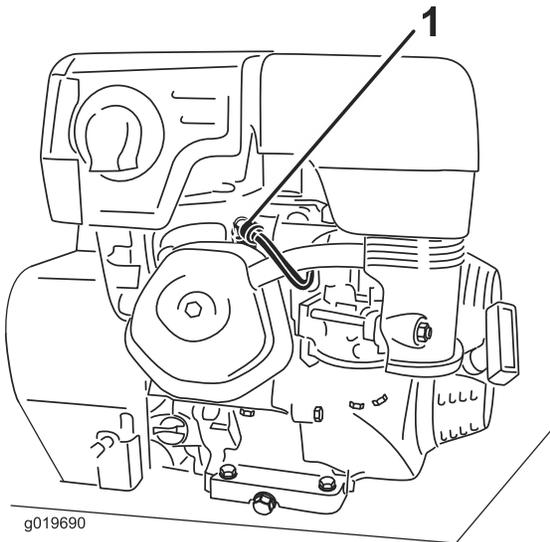

Figure 17
- The travel control lever automatically moves forward and the machine will begin travelling forward (Figure 17).